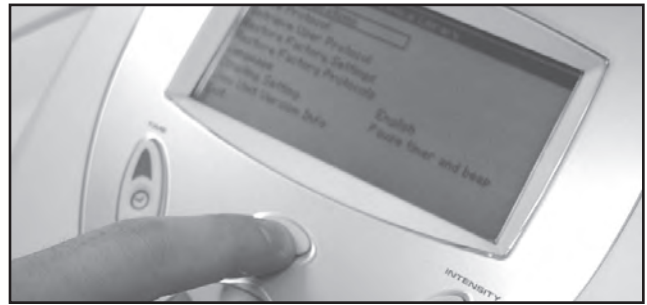

FIGURE 8.1
2. With the system on, press the Clinical Resources button once. See Figure 8.1.